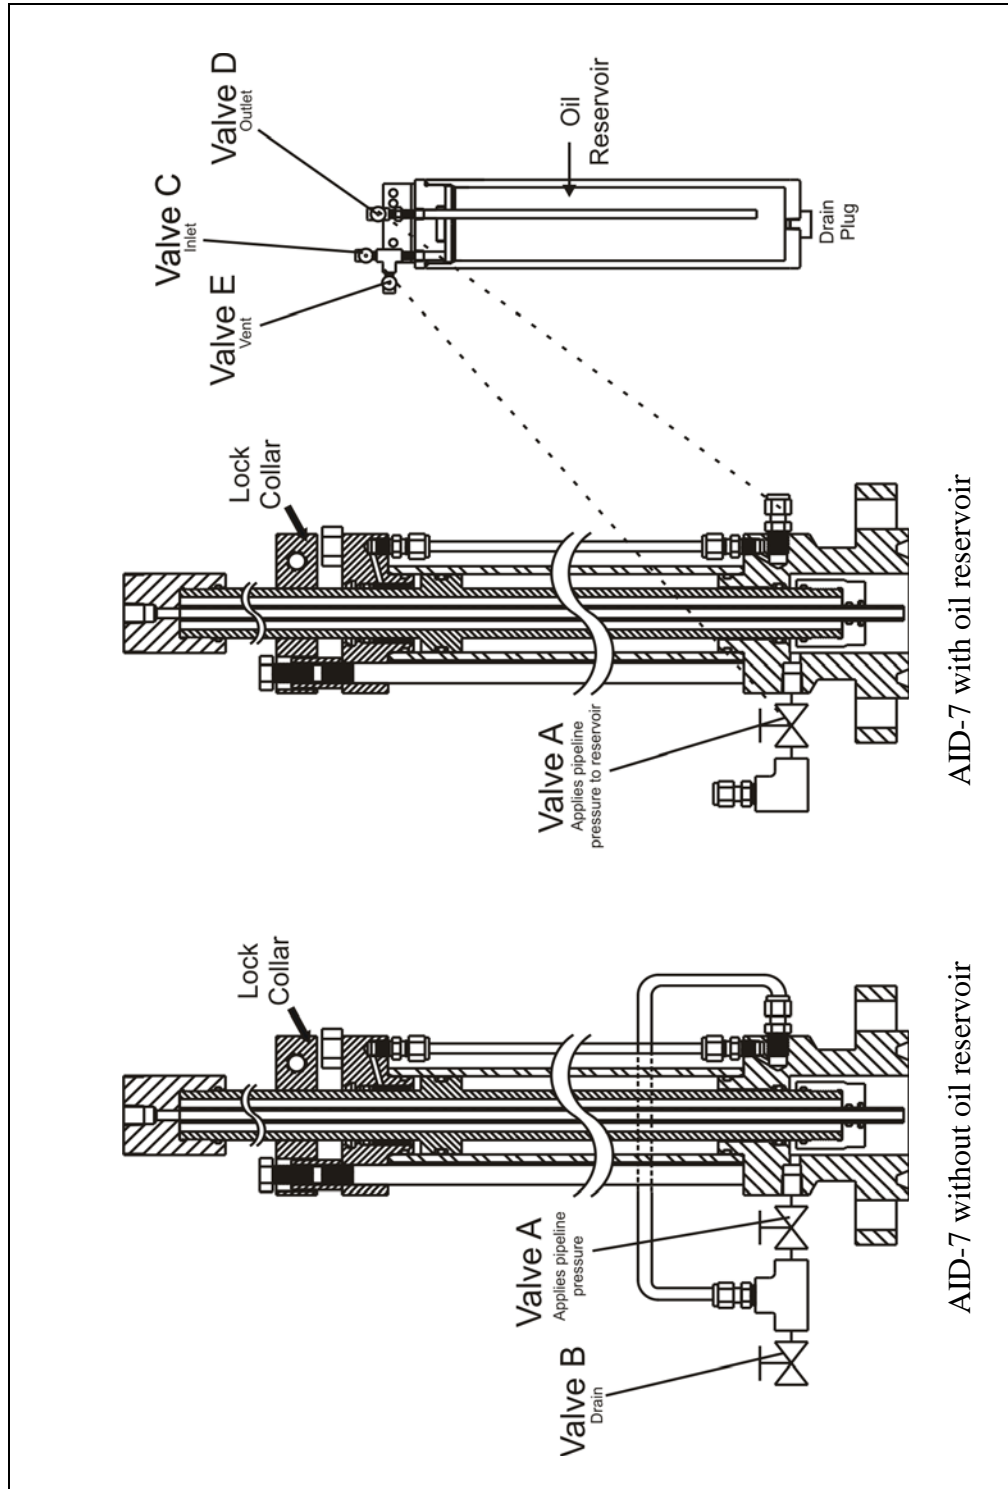

Figure 1
The oil reservoir applies hydraulic oil on the probe shaft in order to ensure a smooth insertion. Process or auxiliary pressure is applied to the reservoir in order to insert and retract the probe from the pipeline. The oil in the reservoir is then applied on the shaft as it travels into the pipeline. The reservoir is shipped from the factory with the necessary oil volume. It should also be noted that the unit is shipped from the factory with the assumption that the installation will be vertical. In cases where the unit is mounted horizontally, the operator will have to rotate the reservoir 90 degrees, with the drain plug (see Figure 1) facing the ground. **The internals of the reservoir will not function properly if the oil pot is placed in a horizontal position.**
- 2.3.6 **Slowly** open Valve A (Figure 1). If your device is equipped with an oil reservoir, open Valves C and D as well. The shaft will begin to insert into the pipeline.